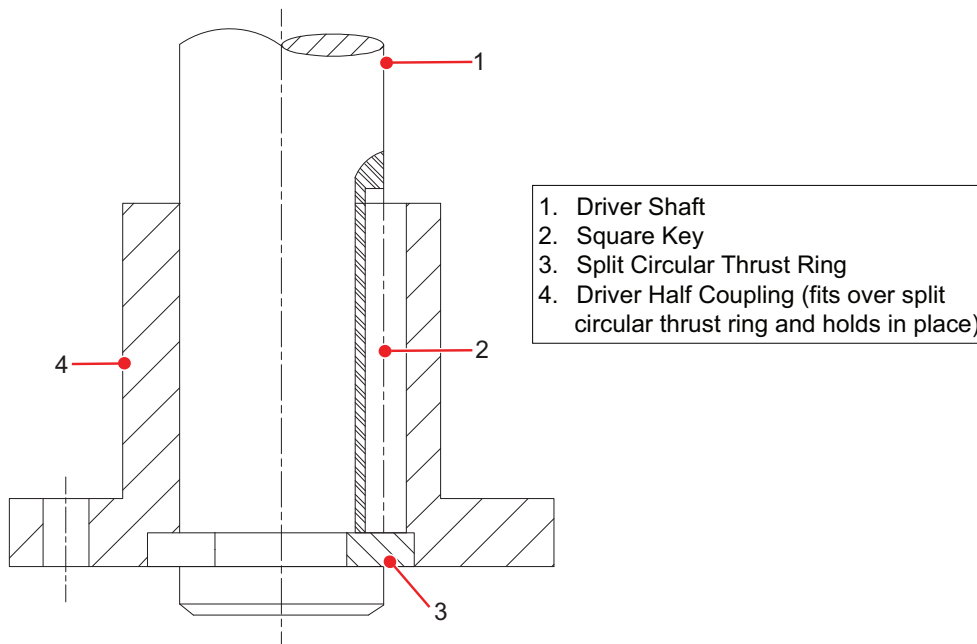

Figure 5-5: Driver Half Coupling Correctly Positioned
4. Install the driver half coupling on the driver shaft (refer to Figure 5-5 on page 28 and Figure 12-1 on page 58 for coupling illustrations).
- c. Install split circular thrust ring in the shaft groove. When properly positioned the motor half coupling will slide down over the split circular key and hold it in position (refer to Figure 5-5 on page 28).
|   | DAMAGE TO THE PUMP <ul style="list-style-type: none"><li>• Before jogging the motor make sure the coupling halves are not touching and the motor shaft end is sufficiently clear of the pump shaft and adjusting nut, and the driver can rotate freely without rotating the pump. The driver half coupling must be in proper position as shown in <a href="#">Figure 5-5 on page 28</a> so that the split circular thrust ring does not come out.</li><li>• Always check rotation before connecting the driver to the pump as reverse rotation while the pump is connected can cause extensive damage to the pump.</li></ul> |